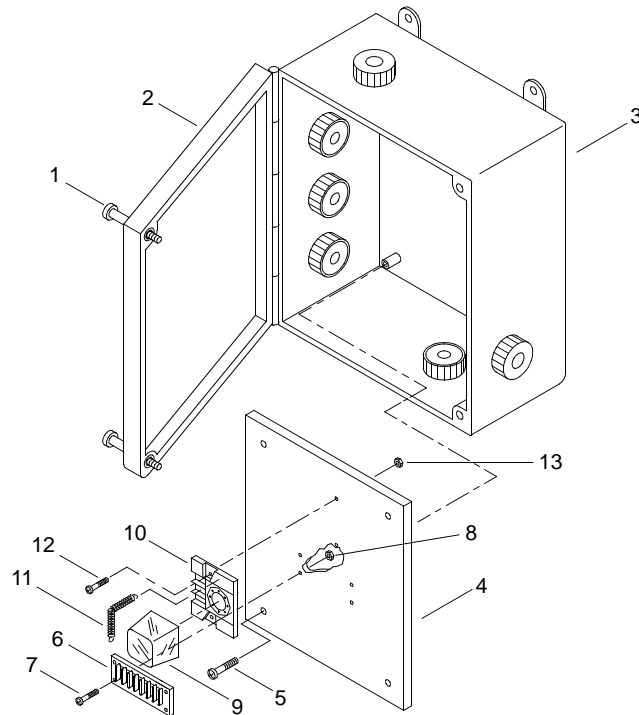

Figure 2. Personnel Shelter Head Electrical Junction Box
2. Loosen two screws (figure 2, item 1) and open enclosure cover (figure 2, item 2).
3. Label and disconnect internal electrical wiring within junction box (figure 2, item 3).
4. Remove panel (figure 2, item 4) from junction box (figure 2, item 3).
- a. Remove four screws (figure 2, item 5) securing panel (figure 2, item 4) to junction box (figure 2, item 3).
- b. Remove panel (figure 2, item 4).
5. Remove terminal block (figure 2, item 6) from panel (figure 2, item 4).
- a. Remove two screws (figure 2, item 7) and nuts (figure 2, item 8) securing terminal block (figure 2, item 6) to panel (figure 2, item 4).
- b. Remove terminal block (figure 2, item 6).
6. Remove relay (figure 2, item 9) from relay socket (figure 2, item 10).
- a. Remove spring (figure 2, item 11) securing relay (figure 2, item 9) to relay socket (figure 2, item 10).
- b. Remove relay (figure 2, item 9) from relay socket (figure 2, item 10) by pulling outwards.
7. Remove relay socket (figure 2, item 10) from panel (figure 2, item 4).
- a. Remove two screws (figure 2, item 12) and nuts (figure 2, item 13) securing relay socket (figure 2, item 10) to panel (figure 2, item 4).
- b. Remove relay socket (figure 2, item 10).